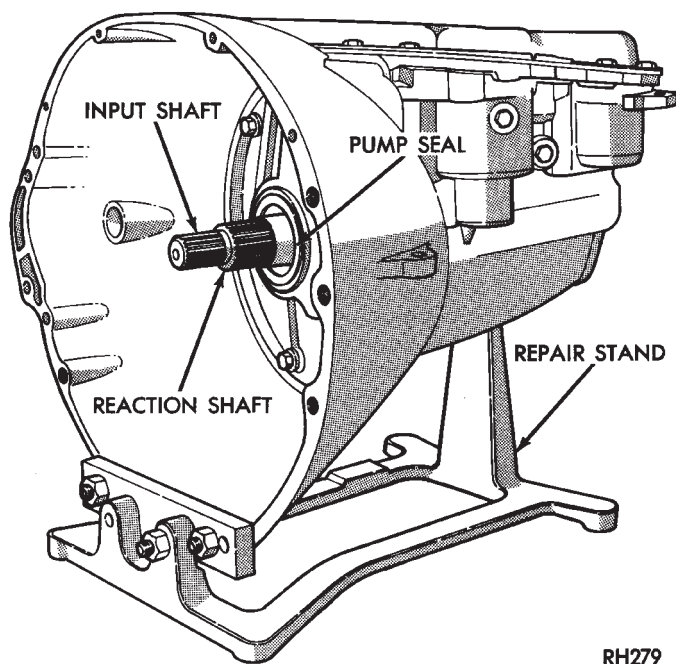

Fig. 1 Transmission Mounted On Typical Repair Stand
(1) Clean transmission exterior with steam gun or with solvent. Wear eye protection during cleaning process.
(2) Remove throttle and shift levers from valve body manual shaft and throttle lever shaft.
(3) Mount transmission in repair stand C-3750-B (Fig. 1).